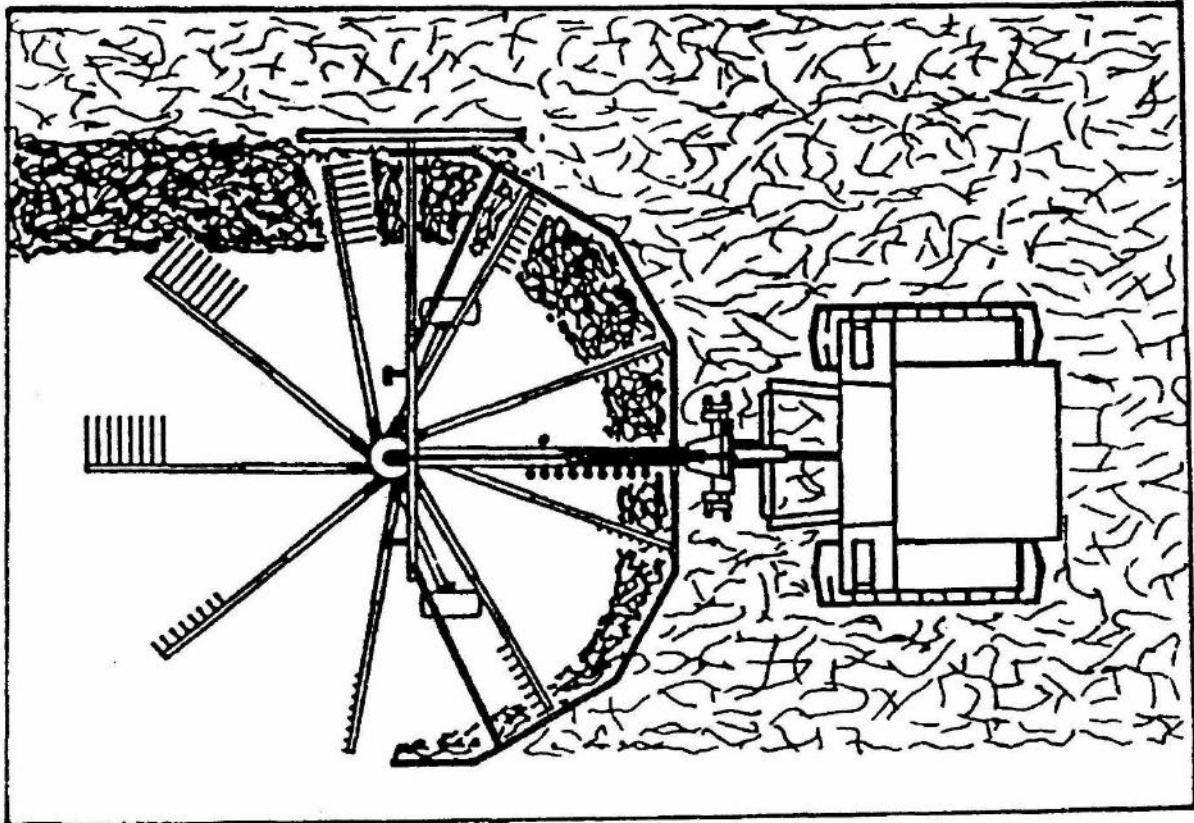

Fig. 16
1. A correctly set hay rake rakes right beneath the raking teeth set to raking position, as shown on figures 16 and 17.